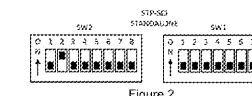

Figure 2
- Set configuration switches SW1 and SW2 in the STP-SCI Master and STP-SCI Slave controller according to Figure 2.
- Set configuration switches SW1 and SW2 in the STP-SCI Smart Controller according to Figure 2.